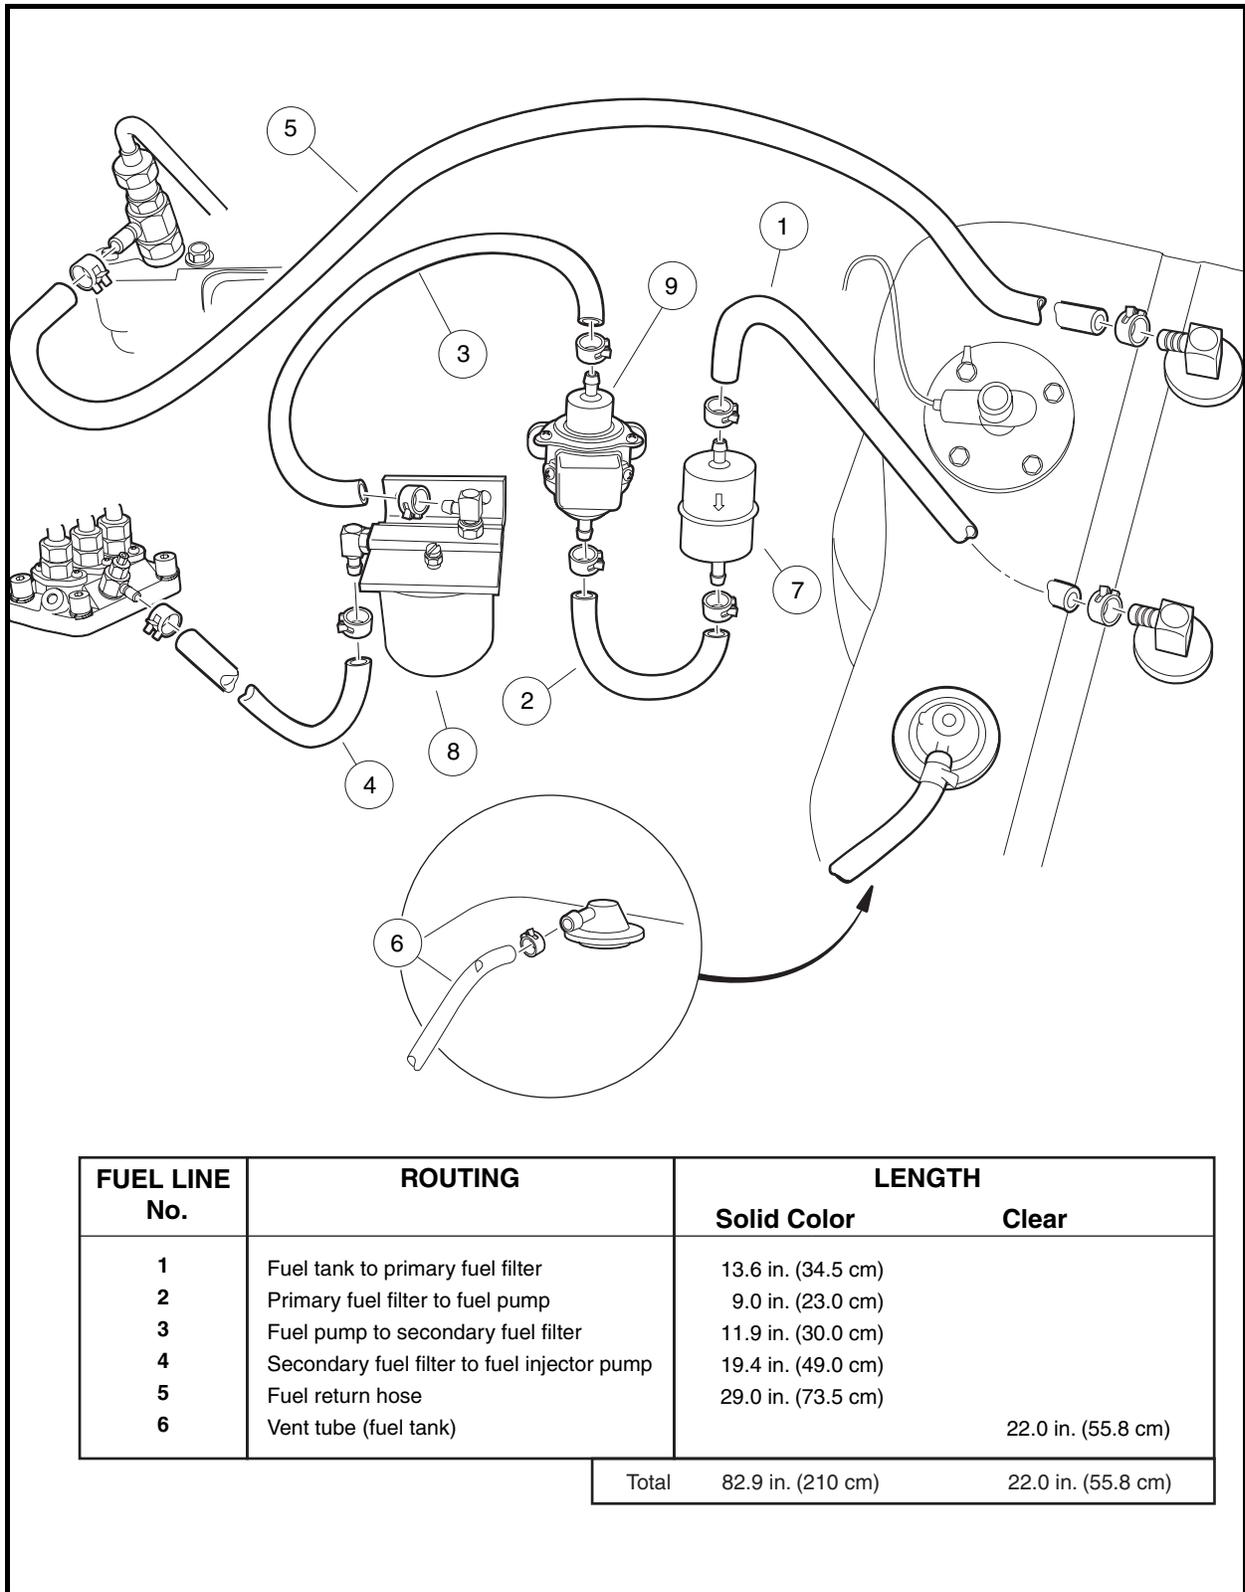

Figure 13b-14 Fuel System (Diesel Vehicles)
6. Disconnect and securely plug the remaining top (outlet) hose (3) from the fuel pump.
7. Disconnect and securely plug the bottom (inlet) hose (2) from the fuel pump.
8. Remove the ground lug bolt from the left side of the fuel pump bracket (**Figure 13b-12, Page 13b-10**). **See following NOTE.**
1. Position a new fuel pump between the fuel filters (**Figure 13b-12, Page 13b-10**).